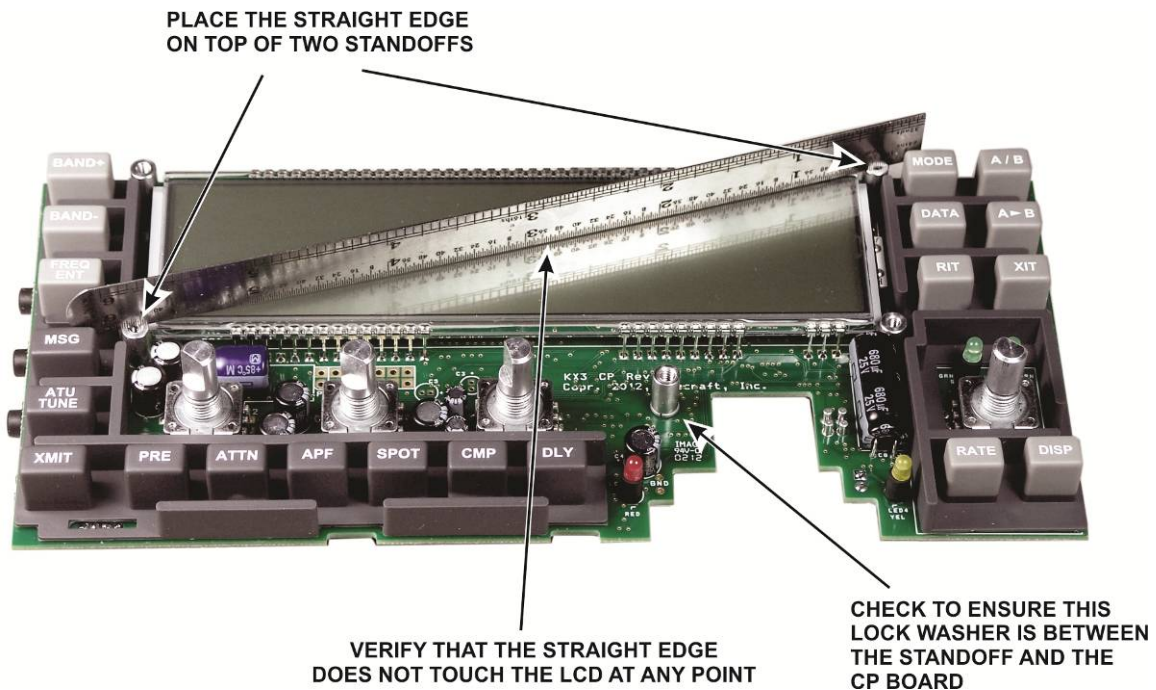
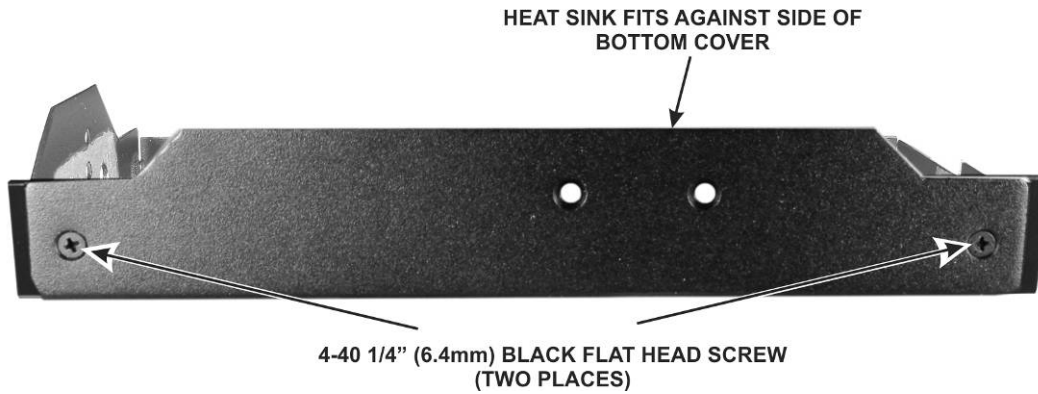

Figure 13. Checking Standoffs.
Figure 27. Mounting the Heat Sink on the Bottom Cover.
6. Straight-edge rule for checking clearances (see Figure 13, pg 13) . If a straight edge rule is not available, you may use the edge of the KX3 heat sink.
☐ On the front side of the board, place a straight edge across the top of two standoffs as shown in Figure 13 and confirm that the straight edge does not touch the LCD at any point. If it does, most likely you left out one of the lock washer spacers shown in Figure 9. Move the straight edge to the remaining two standoffs and repeat the test. If you don't have a rule such as shown, you can use the straight edge of the heat sink (Figure 27).
- Verify that you placed a lock washer between the 4-40 standoff and the pc board as shown in Figure 13.
Mount the heat sink on the side panel of the bottom cover with two screws as shown in Figure 27. The remaining two screw holes will be filled later.